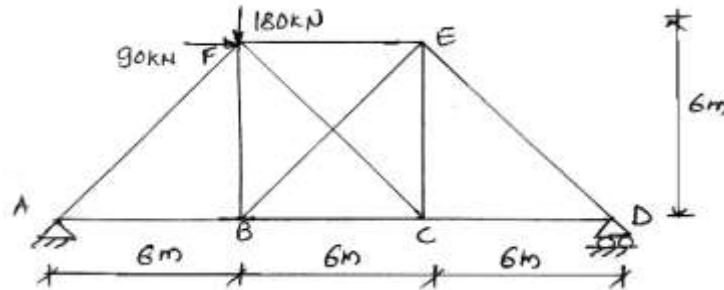

Fig. 3
Q.4 Find the forces in the members of redundant frame shown in fig.3 cross sectional area of each members is 1000mm^2 & $E= 2 \times 10^5 \text{ N/mm}^2$ 15
- Q.4 Find the forces in member BE & CF of truss shown in fig.3 the ratio of length to cross – sectional area for all members is the same. The frame is pinned at A & rest on rollers at D. 15